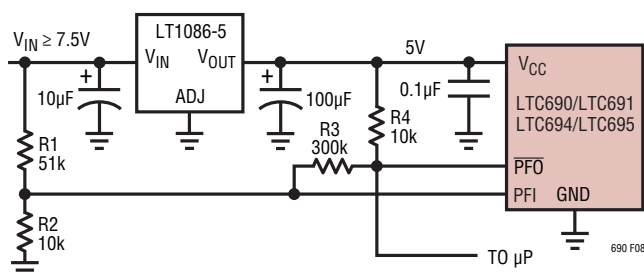

Figure 8. Monitoring *Unregulated* DC Supply with the LTC690's Power-Fail Comparator
The LTC690 family generates a Power Failure Output ( $\overline{\text{PFO}}$ ) for early warning of failure in the microprocessor's power supply. This is accomplished by comparing the Power Failure Input (PFI) with an internal 1.3V reference.  $\overline{\text{PFO}}$  goes low when the voltage at the PFI pin is less than 1.3V. Typically PFI is driven by an external voltage divider (R1 and R2 in Figures 8 and 9) which senses either an unregulated DC input or a regulated 5V output. The voltage divider ratio can be chosen such that the voltage at the PFI pin falls below 1.3V several milliseconds before the 5V supply falls below the maximum reset voltage threshold 4.75V.  $\overline{\text{PFO}}$  is normally used to interrupt the microprocessor to execute shutdown procedure between  $\overline{\text{PFO}}$  and  $\overline{\text{RESET}}$  or RESET.
The power-fail comparator, C3, does not have hysteresis. Hysteresis can be added however, by connecting a resistor between the  $\overline{\text{PFO}}$  output and the noninverting PFI input pin as shown in Figures 8 and 9. The upper and lower trip points in the comparator are established as follows:
**Example 1:** The circuit in Figure 8 demonstrates the use of the power-fail comparator to monitor the unregulated power supply input. Assuming the rate of decay of the supply input  $V_{\text{IN}}$  is 100mV/ms and the total time to execute a shutdown procedure is 8ms. Also the noise of  $V_{\text{IN}}$  is 200mV. With these assumptions in mind, we can reasonably set  $V_L = 7.5V$  which 1.25V greater than the sum of maximum reset voltage threshold and the dropout voltage of LT1086-5 (4.75V + 1.5V) and  $V_{\text{HYSTERESIS}} = 850mV$ .